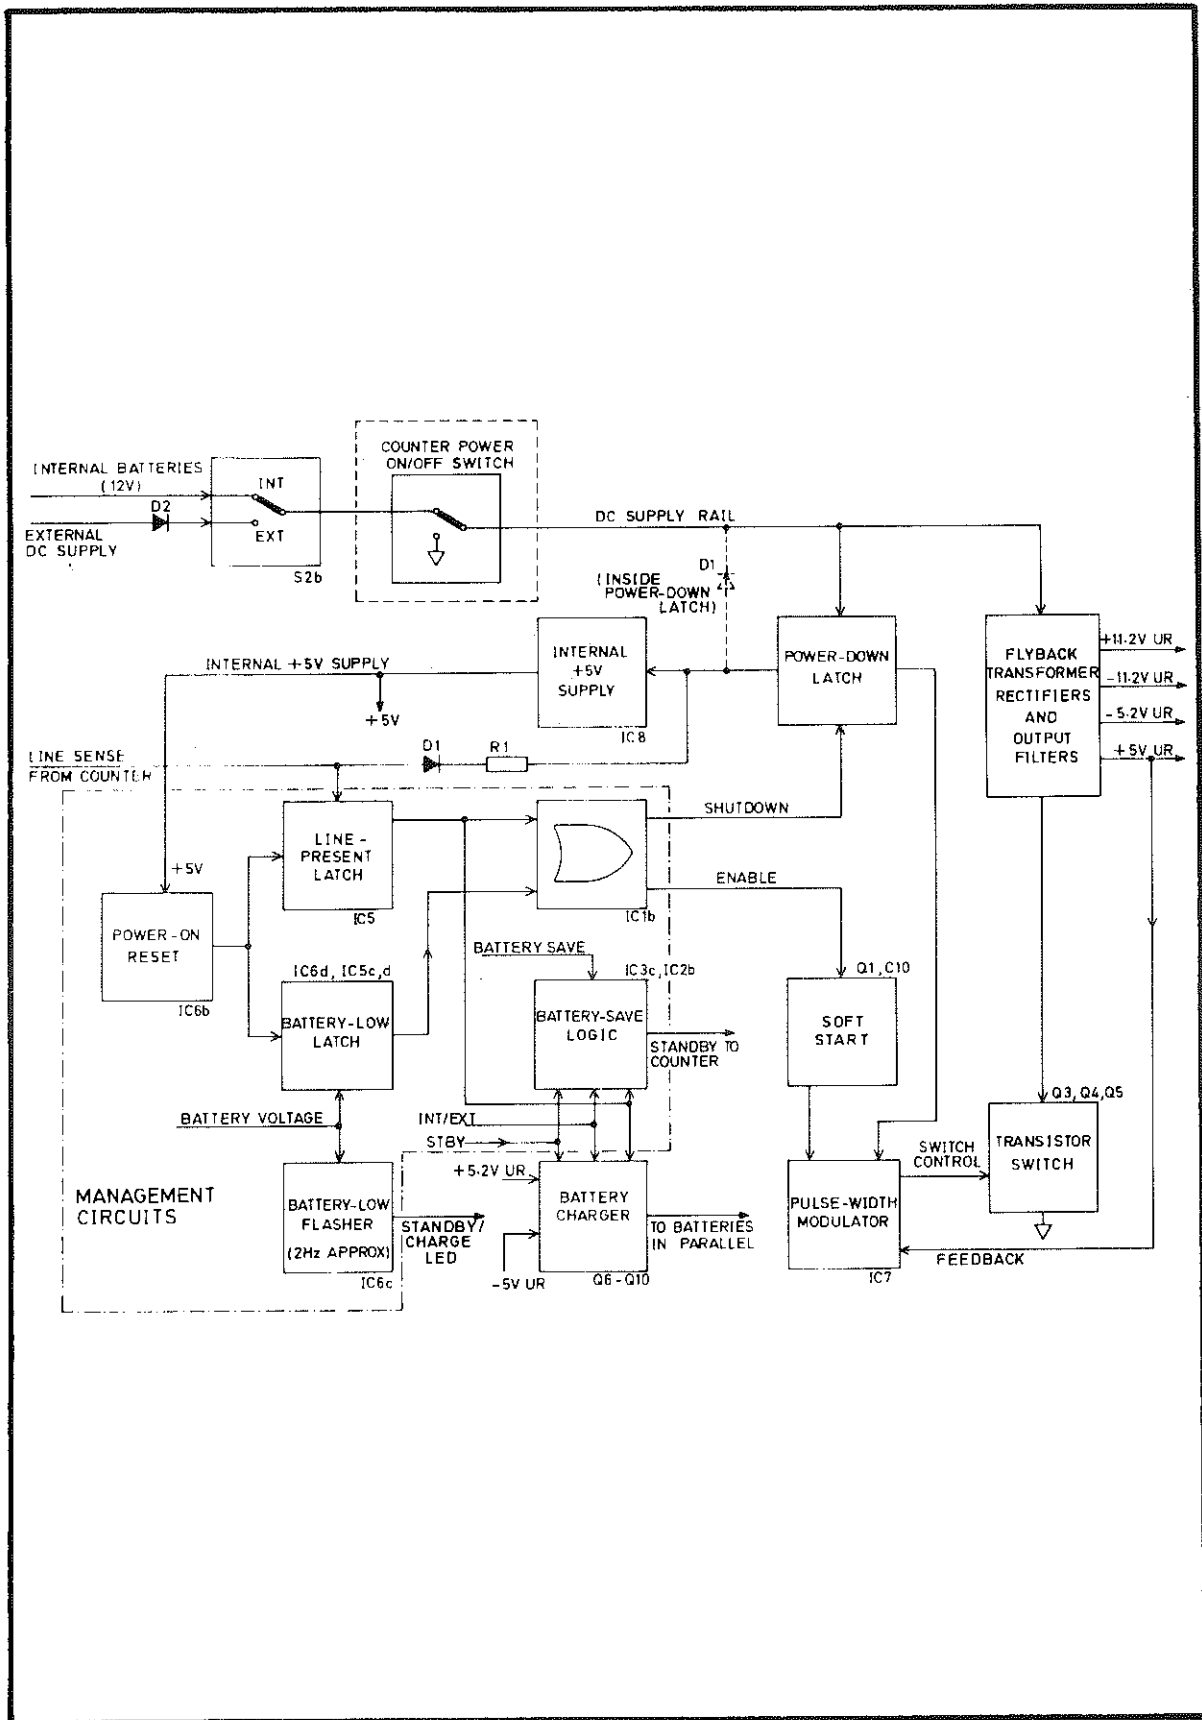

Fig 6.15 The Battery Pack
- 165 In the block diagram of the option, shown in Fig 6.15, direct current, from either the internal battery pack or an external DC supply, passes through the primary of the flyback transformer and through a transistor switch to ground.